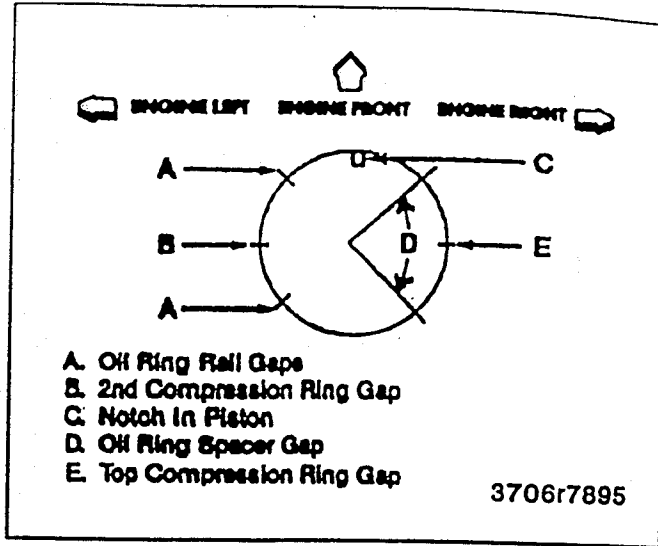
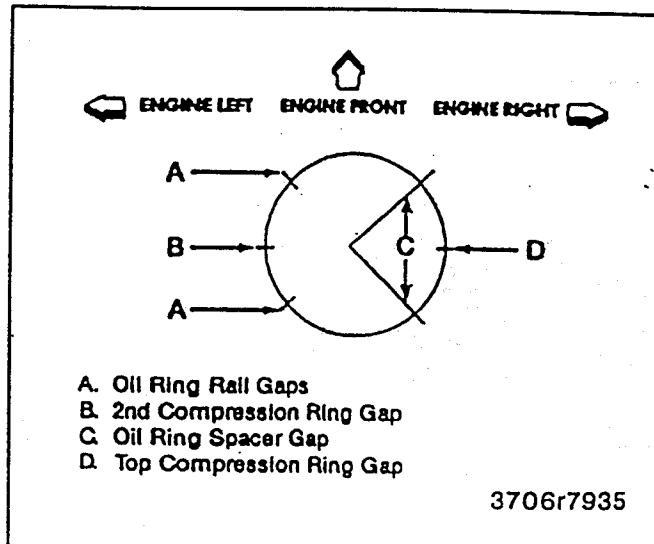

Figure 78—Piston Ring End Gap Location (5.0L and 5.7L Engines)
Figure 79—Piston Ring End Gap Location (7.4L Engines)
Install or Connect (Figures 78 through 81)
- B. Locate the piston ring end gaps as shown in figure 78 (5.0L and 5.7L engines) or figure 79 (7.4L engines).
- On 5.0L and 5.7L engines, the notch in the piston crown (figure 78) must face the front of the engine.